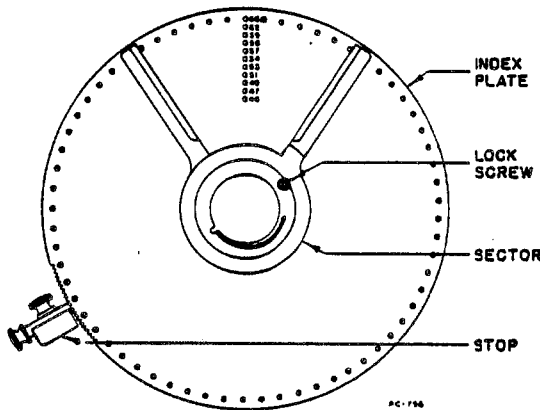

Figure 35
The Sector. Index plates on all CINCINNATI Dividing Heads, Spiral Milling Heads and similar equipment have a sector for convenience in indexing. Fig. 35 shows the sector set for 220 divisions, which requires that, for each division, the index pin move over a series of twelve holes (spaces) in the 66-hole circle. The hole in which the index pointer rests, should not be counted when setting the sector. This factor is sometimes the source of a mistake in setting up dividing head work, and must not be overlooked.
Index Plate Stop. The index plate stop, Fig. 35, engages notches in the index plate, preventing it from rotating. If the Head is connected to the driving mechanism for a spiral or helical milling job, the index plate, sector, and crank rotate as a unit. For such a set-up, *the stop must be disengaged from the plate.* In other words, the stop should be engaged only when the Dividing Head is not connected to the power drive, as when milling spur
10. Withdraw the index plate stop (Fig. 35). The index plate must be free to revolve with the index pin. **Note**—The stop engaging the notches in the rim of the index plate should be engaged only when the Dividing Head is used without the driving mechanism.